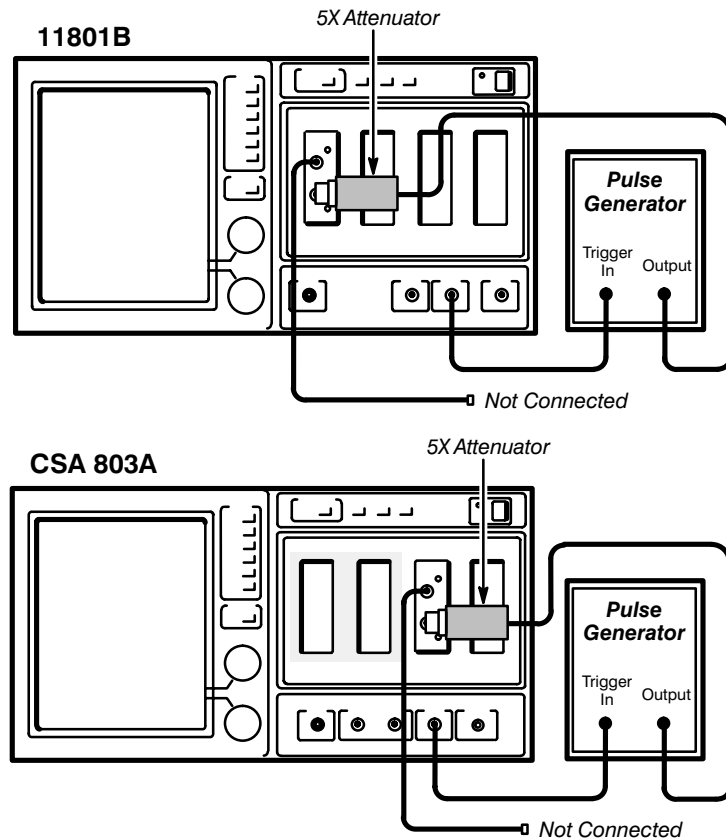

Figure 13: Setup for TDR Demonstration
For this example you will need a mainframe with at least one SD-20 installed and an external step generator. Also, you will need one SMA cable, preferably of 5 ns length. See Figure 13 for the equipment setup for this example.
- Step 2:** Connect an external step generator (as shown in Figure 13).